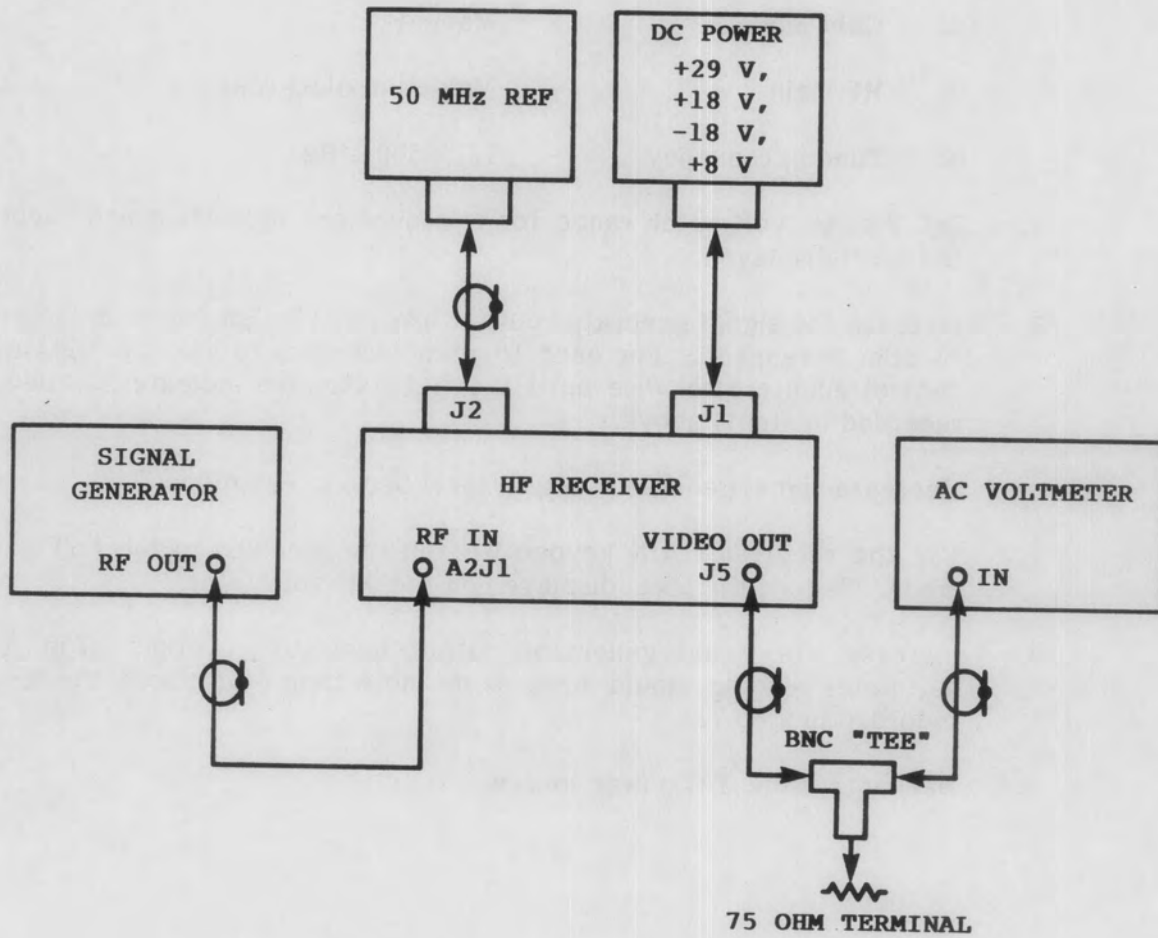

Figure 4-3. SNR Test Equipment Setup
1. Connect the receiver as shown in **Figure 4-3**.